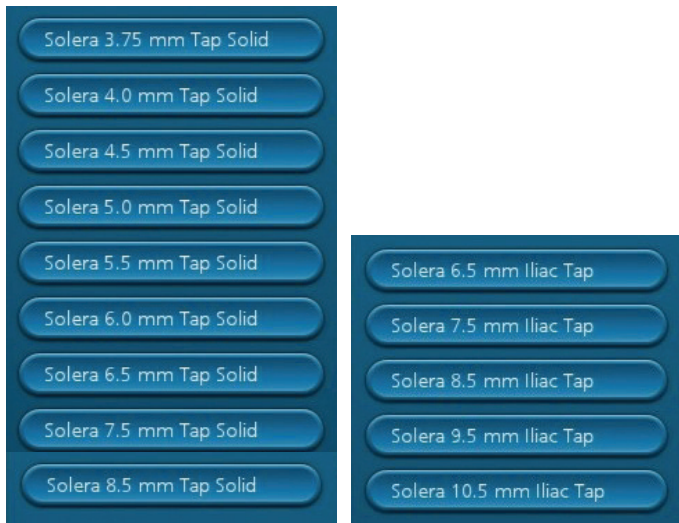

Figure 5
- The Taps toolcards will include options for tip sizes, using the specific options listed in Table 1 select the appropriate tap width from the menu (Figure 5).